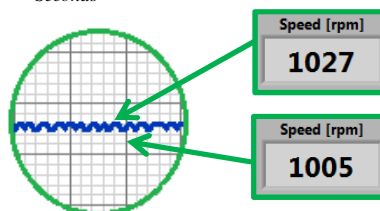

Fig. 42 – Measure of the oscillations
- 5) Measure the oscillation  $N_{osc}$  occurring in  $X_{Seconds}$  as shown in fig 42 (X can be chosen at random).